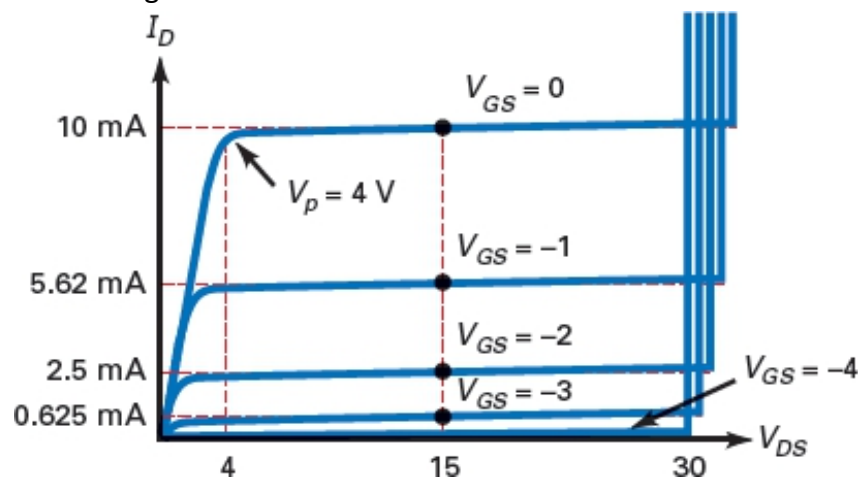

Figure-5 Drain Curves
- In Figure-5, the pinch-off voltage separates two major operating regions of the JFET. The almost-horizontal region is the active region. The almost-vertical part of the drain curve below pinch-off is called the ohmic region.
- R_{DS} is called the ohmic resistance of the JFET. In Figure-5, $V_P = 4$ V and $I_{DSS} = 10$ mA. Therefore, the ohmic resistance is:
- Figure-5 shows the drain curves for a JFET with an I_{DSS} of 10 mA.
- In Figure-5, notice that $V_{GS(off)} = -4$ V and $V_P = 4$ V
- The transconductance curve of a JFET is a graph of I_D versus V_{GS} . By reading the values of I_D and V_{GS} of each drain curve in Figure-5, we can plot the curve of Figure-6a. Notice that the curve is nonlinear because the current increases faster when V_{GS} approaches zero.